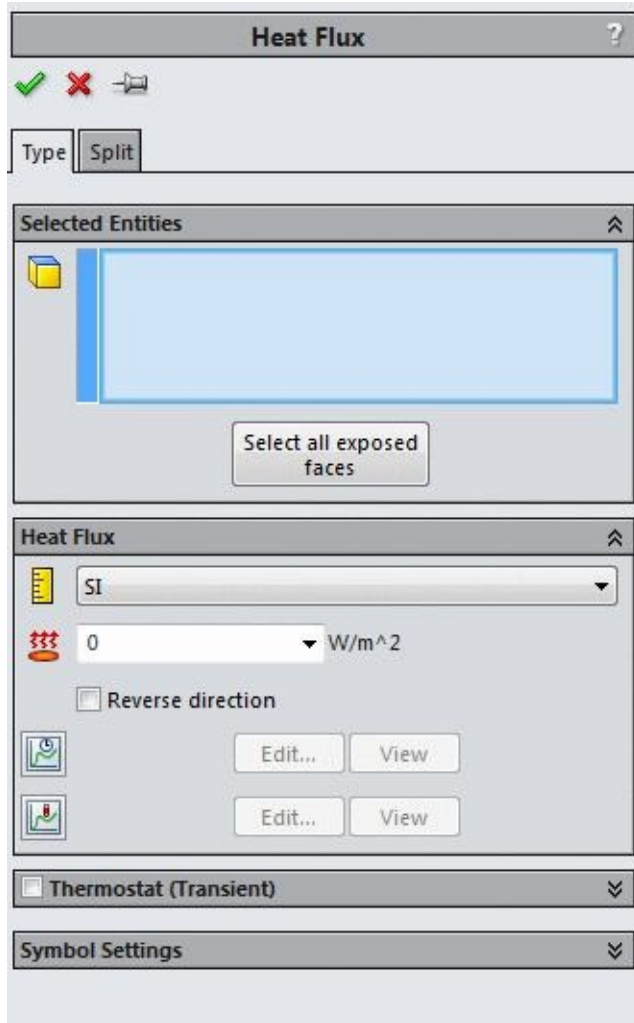

Figure-10. Heat Flux PropertyManager
- Click on the **Heat Flux** button from the list. The **Heat Flux PropertyManager** will be displayed as shown in Figure-10.